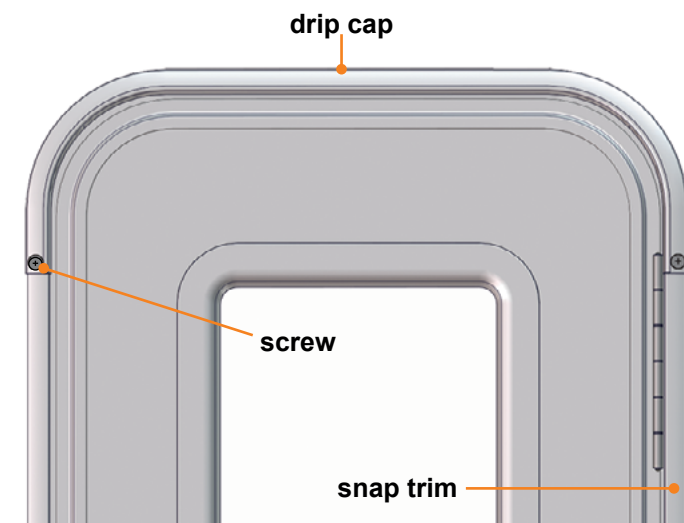

Fig.1
1. Remove screws holding the drip cap onto the door and remove drip cap (**Fig.1**).
2. If installed, remove entry snap trim on both left and right side of door (**Fig.1**).